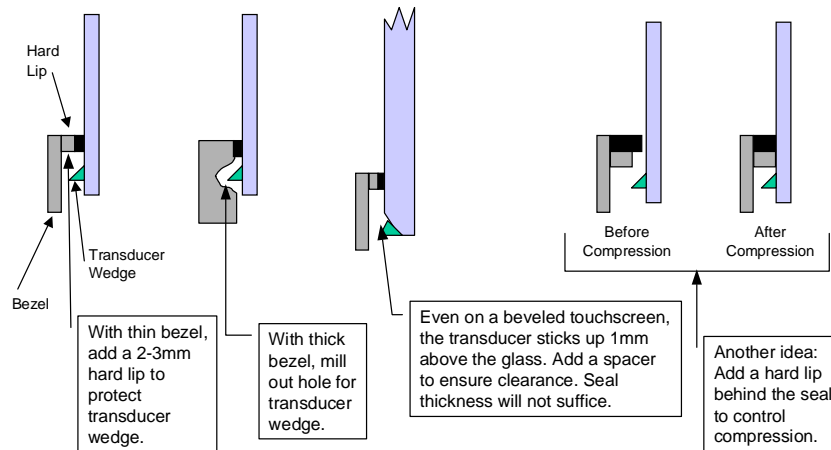

Figure 2.1 Bezel design
- Ensure the bezel lands in the sealing area of the touchscreen. See Figure 2.1 on page 7.